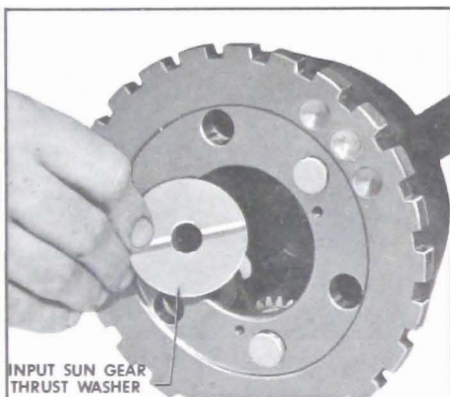

Figure 5-265
6. Install the input sun gear thrust washer with the oil groove facing input sun gear. See Figure 5-265.